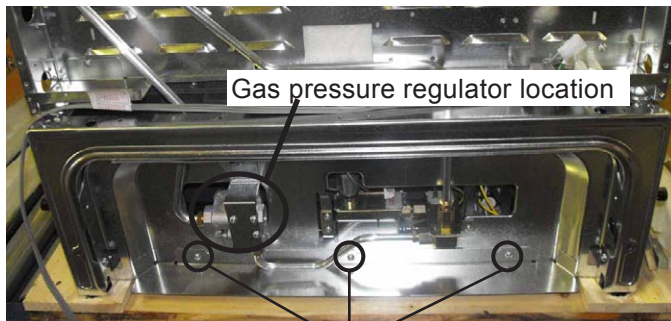

Figure 2
- The hatched areas are the locations where the gas line can enter the cabinet (figure 2).
- The recommended position for the gas entry line is located at 7" (17,8 cm) from the left cabinet wall and 2" (5,1 cm) from the floor (figure 2).
- The shaded area is the location where the electric outlet can be located (figure 2).